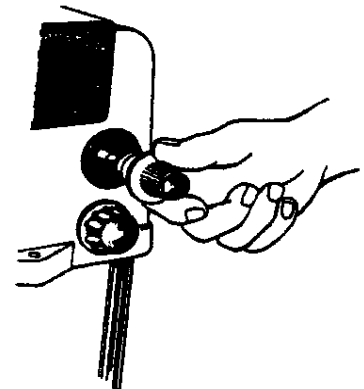

Fig. 5
To remove housing cover (1) for adjustments, slide side windows back and swing out tabs (19). Then withdraw knobs (2, 3, 5, 6 and 7) from their shafts (see Fig. 5) and lift cover off vertically.